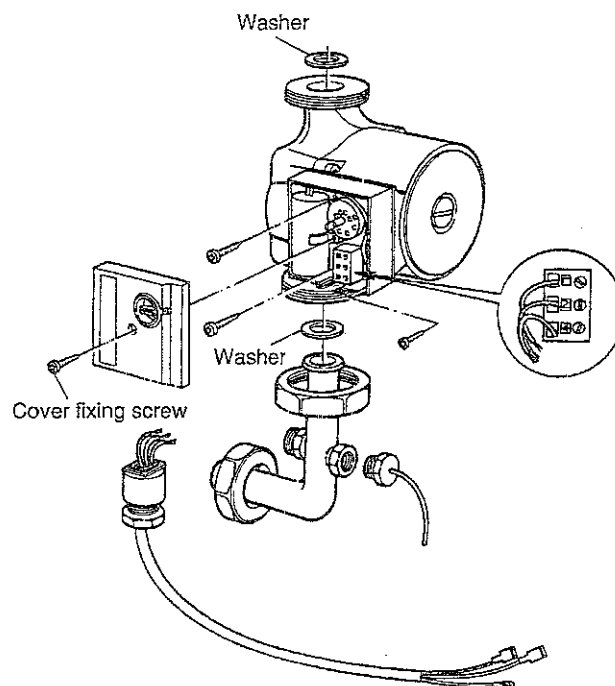

Fig. 40
- c) Remove electrical cover on pump, one screw (fig. 40). (Rotate pump to remove cover).
- g) Re-assemble in reverse order (fig. 40).